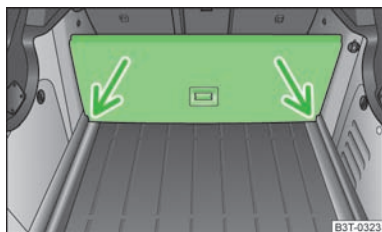

Fig. 71
- Lift up the part with the holder and secure it by sliding it into the grooves marked with the arrows » Fig. 71.